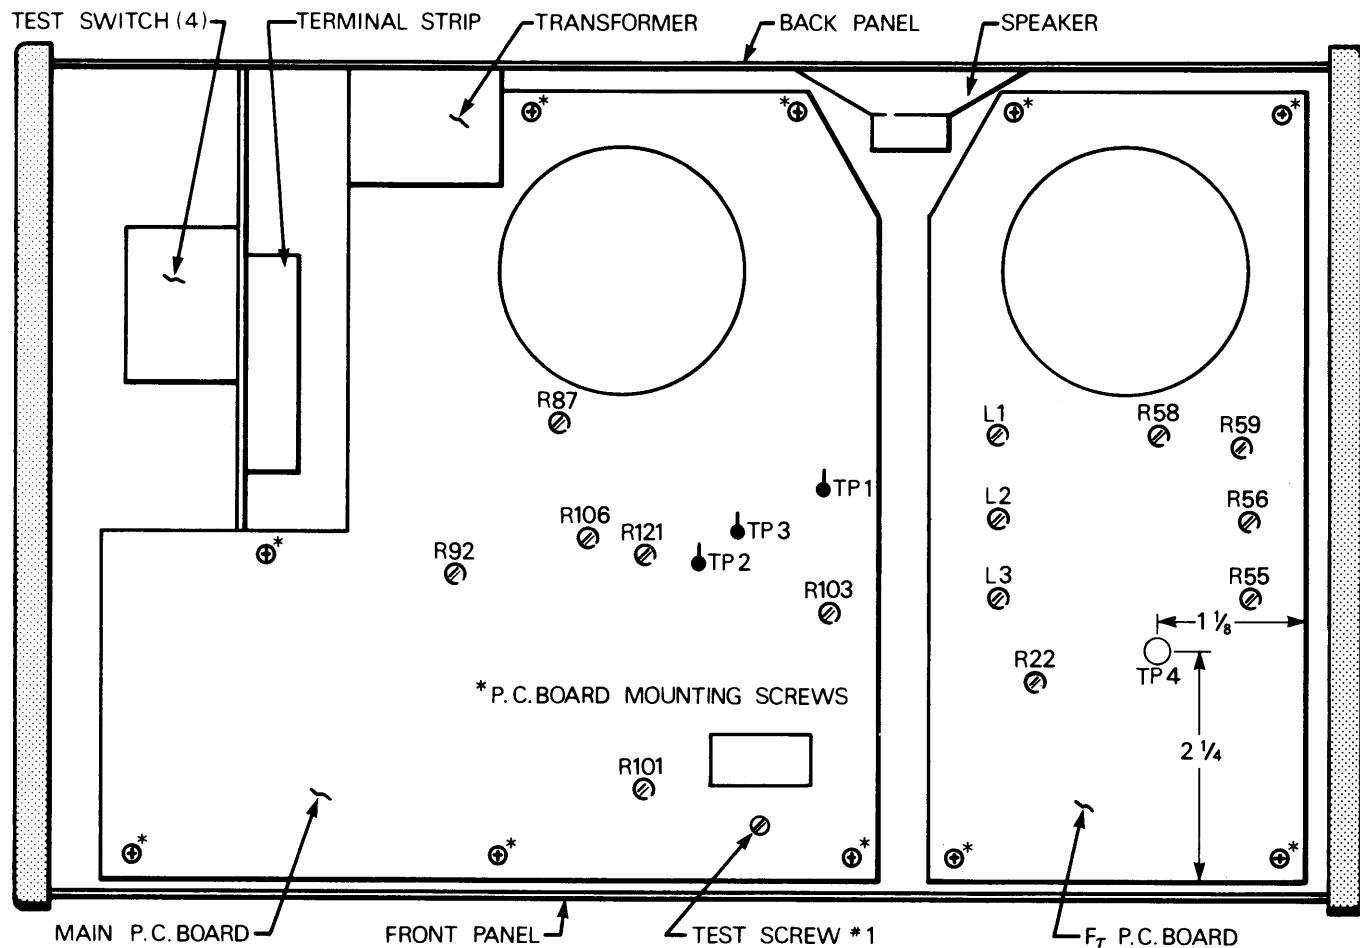
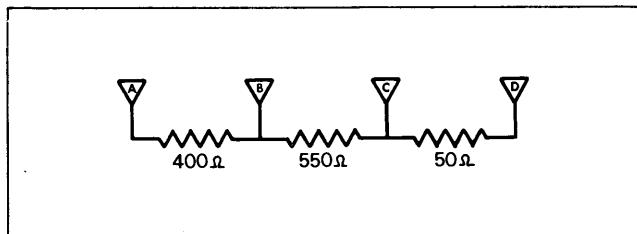
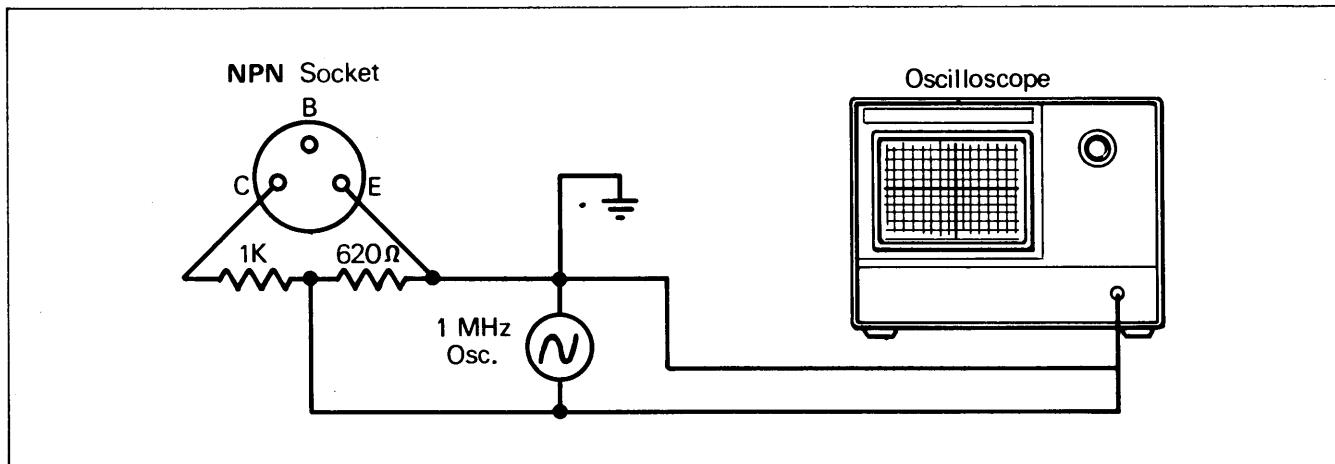

Fig. 8. Bottom view of Model 530, with bottom panel removed.
Fig. 9. Resistive network.
Fig. 14. Field calibration, $f\tau$ circuit.
1. Turn the Model 530 power off. If LEAKAGE/GAIN meter (19) does not indicate zero, insert a suitable screwdriver in the hole just below the meter and adjust it to indicate zero on top scale.
2. Turn the Model 530 power on, if the LEAKAGE/GAIN meter (19) indicates zero on top scale, proceed to step #4. If the LEAKAGE/GAIN meter (19) does not indicate zero, turn the 530 power off, unplug the unit and remove the 530 bottom panel by removing the five screws (three on bottom panel and two on back panel).
3. Plug in the unit and turn power on. Adjust the zero control trimpot R-87 with suitable screwdriver so that meter is at zero. Refer to Fig. 8 for trimpot location.
4. With power on, set the HI PWR/LO PWR switch (10) to "LO PWR" position. Turn TRANSISTOR BETA/FET gm switch (9) to "TRANSISTOR BETA" position. LEAKAGE/GAIN meter (19) should read zero on top scale; if not, remove bottom panel of the 530 and adjust zero β CAL
trimpot R-106 with suitable screwdriver (while holding the TRANSISTOR BETA/FET gm switch (9) in "TRANSISTOR BETA" position) so that the LEAKAGE/GAIN meter (19) reads zero on top scale. Refer to Fig. 8 for trimpot location.
1. LEAKAGE/GAIN meter (19) should be zero calibrated as per section "A" above.
3. Set Test switch (4) to the top-most position. Set NPN/PNP switch (12) to "NPN/P-CH" position.
4. Connect a 5.1 K Ω resistor in series with a DC milliamp meter, to the blue and yellow test lead sockets (6) of the 530. (Blue socket should be connected to the positive lead of the external meter).
5. Press Model 530 PUSH-TO-TEST switch (13) and adjust front panel LEAKAGE VOLTS control (14) so that the external meter reads 0.9 milliamp DC.
6. The Model 530 LEAKAGE/GAIN meter (19) should read $900 \mu\text{A}$ on top scale. If meter does not read $900 \mu\text{A}$, unplug the 530 and remove the bottom panel.
7. Plug the 530 into the power source and repeat step #5. With suitable screwdriver, adjust trimpot R-103 so that LEAKAGE/GAIN meter (19) reads $900 \mu\text{A}$ on top scale. Refer to Fig. 8 for trimpot location.
3. Build yourself a simple resistive network as shown in Fig. 9 (either by fixed resistors or by adjusting trimpots).
4. Remove the small grounding TEST screw #1 and washer from back of the main P.C. board (at the corner next to the pushbutton switch). Refer to Fig. 8. Connect a lead between point "A" of the resistive network (Fig. 9) and main P.C. board test point 2 (TP-2); also connect a lead between point "D" (Fig. 9) and main P.C. board test point 3 (TP-3). Refer to Fig. 8.
5. Set HI PWR/LO PWR switch (10), of the Model 530, to the "LO PWR" position. Set NPN/PNP switch (12) to the "NPN/N-CH" position. Lever Test switch (4) should be in the top-most position. Connect the blue test lead, which should be plugged into the blue test lead socket (6), to point "C" of resistive network (Fig. 9).
6. Plug the Model 530 into the power source and turn power switch (11) on. Turn TRANSISTOR BETA/FET gm switch (9) to "TRANSISTOR BETA" position. LEAKAGE/GAIN meter (19) should read "50" on LO β scale. If not, adjust main P.C. board trimpot R-121 with suitable screwdriver (while holding the TRANSISTOR BETA/FET gm switch (9) in "TRANSISTOR BETA" position), so that the meter reads "50" on LO β scale. Refer to Fig. 8.
7. Connect the blue test lead to point "B" of the resistive network (Fig. 9). Turn the TRANSISTOR BETA/FET gm switch (9) to "TRANSISTOR BETA" position. The LEAKAGE/GAIN meter
(19) should read full scale. If not, adjust main P.C. board trimpot R-101 with suitable screwdriver so that LEAKAGE/GAIN meter reads full scale. Refer to Fig. 8. Unplug the Model 530 from power and disconnect all leads. Replace test screw #1 and washer to its original position. Refer to Fig. 8.
- Turn Model 530 off. If f_T OUT-OF-CIRCUIT meter (18) does not indicate zero, insert a suitable screwdriver in the hole just below the meter and adjust it to indicate zero on the top scale.
- Turn Model 530 power on. Without any transistors plugged into f_T sockets (15) or (16), check for f_T meter (18) reading of zero for each range selected on the RANGE, MHz Switch (17). If the f_T meter (18) does not read zero, adjust R-55 to obtain a zero reading (Fig. 8).
- Adjust R-22 for a collector current of 10 milliamperes (See Fig. 8 for location of R-22).
- Insert NPN transistor into front panel socket labeled NPN (16). All frequency measurements are taken at TP-4. See Fig. 8 for location of TP-4 and oscillator coils.
- (c) Set Range Switch (17) to 0-100. Adjust L₁ for a reading between .98 MHz and 1.02 MHz.
- (d) Set Range Switch (17) to 0-500. Adjust L₂ for a reading between 9.8 MHz and 10.2 MHz.
- (e) Set Range Switch (17) to 0-1500. Adjust L₃ for a reading between 29.5 MHz and 30.5 MHz.
- (a) Connect two resistors in series and connect to Model 530 NPN Transistor Socket (16) as shown in Fig. 14. Turn power on. (See Fig. 8 for location of R-56, R-59 and R-58).
- (b) Set Range Switch (17) to 0-100.
- (d) Adjust R-56 for a reading of 60 on the top scale of the $f\tau$ meter (18).
- (e) Set Range Switch (17) to 0-500.
- (g) Adjust R-59 for a reading of 60 on the top scale of the $f\tau$ meter (18).
- (h) Set Range Switch (17) to 0-1500.